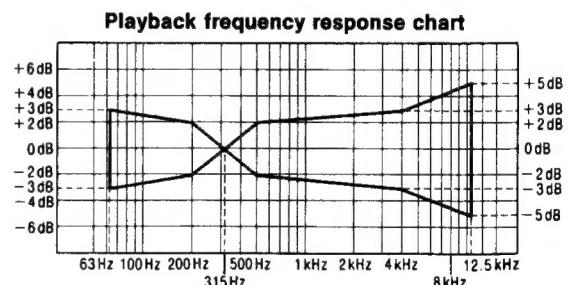

Fig.6
2. Assure that the frequency response is within the range shown in **Fig. 6** for both L-CH and R-CH.